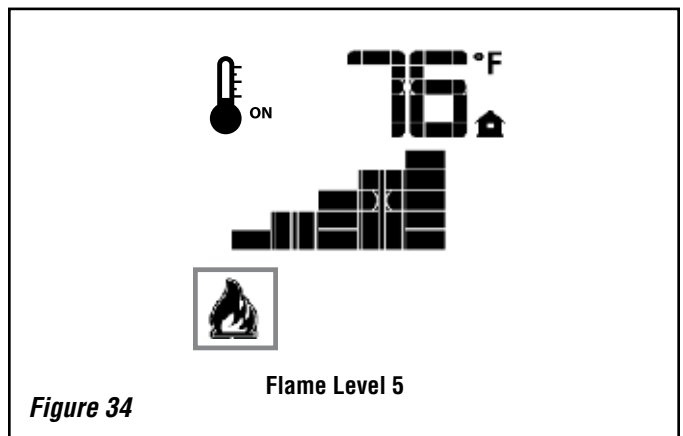

Figure 34
The system has six (6) flame levels. See **Figure 34** for an example. With the system on, and the flame level at the maximum in the appliance, pressing the Down Arrow Key once will reduce the flame height by one step until the flame is turned off.